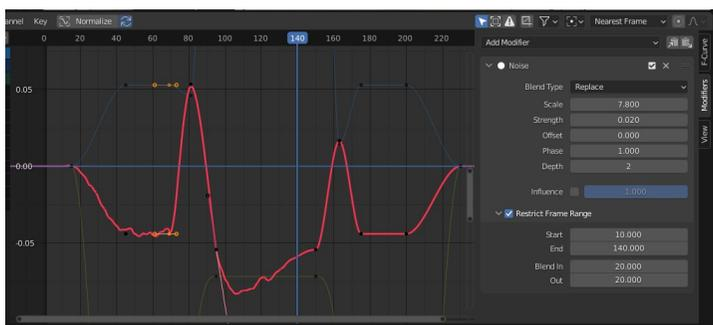

Figure 12-5 Adding Noise Using the Graph Editor
19. The Graph Editor area extends the functionality of the Timeline by representing not only the time of each keyframe but also the value at each point and the shape of the curve between the keyframes, see Figure 12-5. Change the Timeline area to a Graph Editor then, with the rig armature in Pose mode, select the right hand IK bone. As you can see there is a lot of info squashed in here so there are two ways you could reduce the clutter; the first is to hide the channels you're not editing by clicking on the eye symbols on the left, the second is to adjust the ends of the sliders to set the range of the area to match the graph.